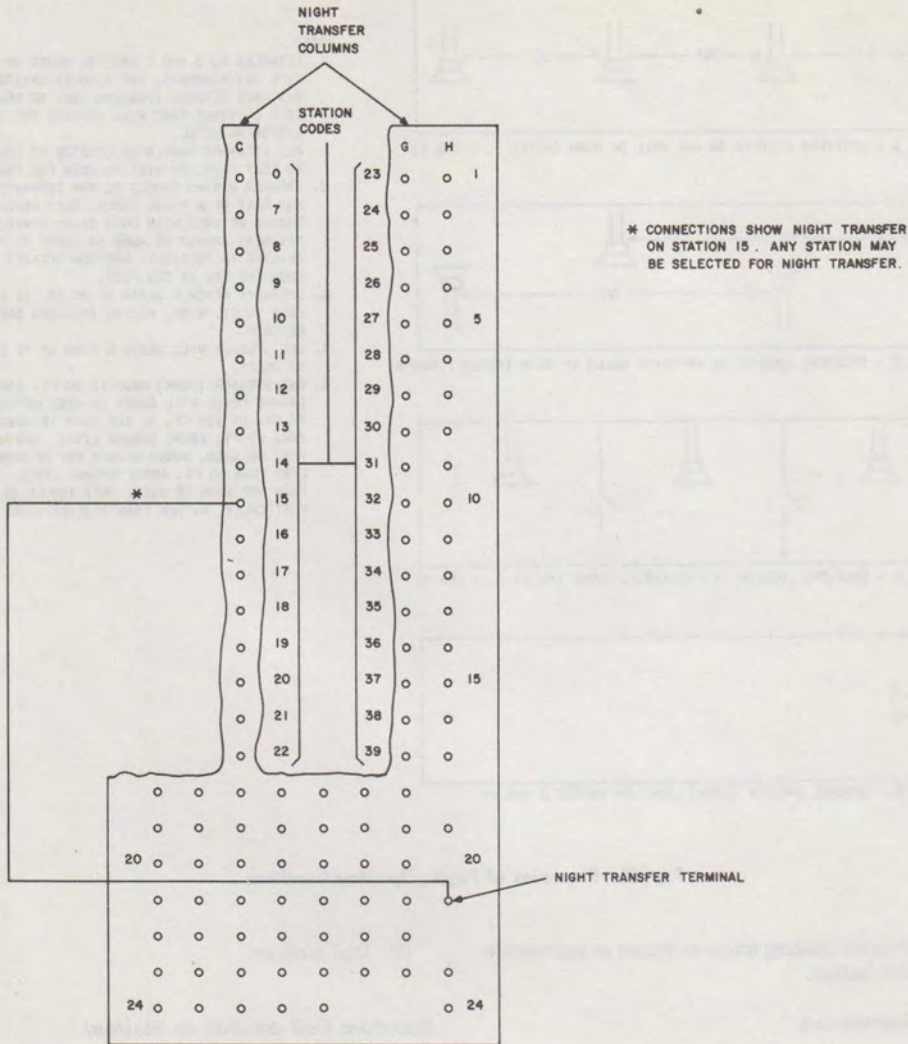

Fig. 29—Connections for Night Transfer
4.17 Night transfer is provided in the attendant telephone set (833C and 2833C). In the 580A KSU a strap must be run from the NT terminal (column H, terminal 21) on connecting block 1 to the station code (columns C and G) selected for night transfer. For example, Fig. 29 shows station 15 wired for night transfer. See Fig. 29 for connections.